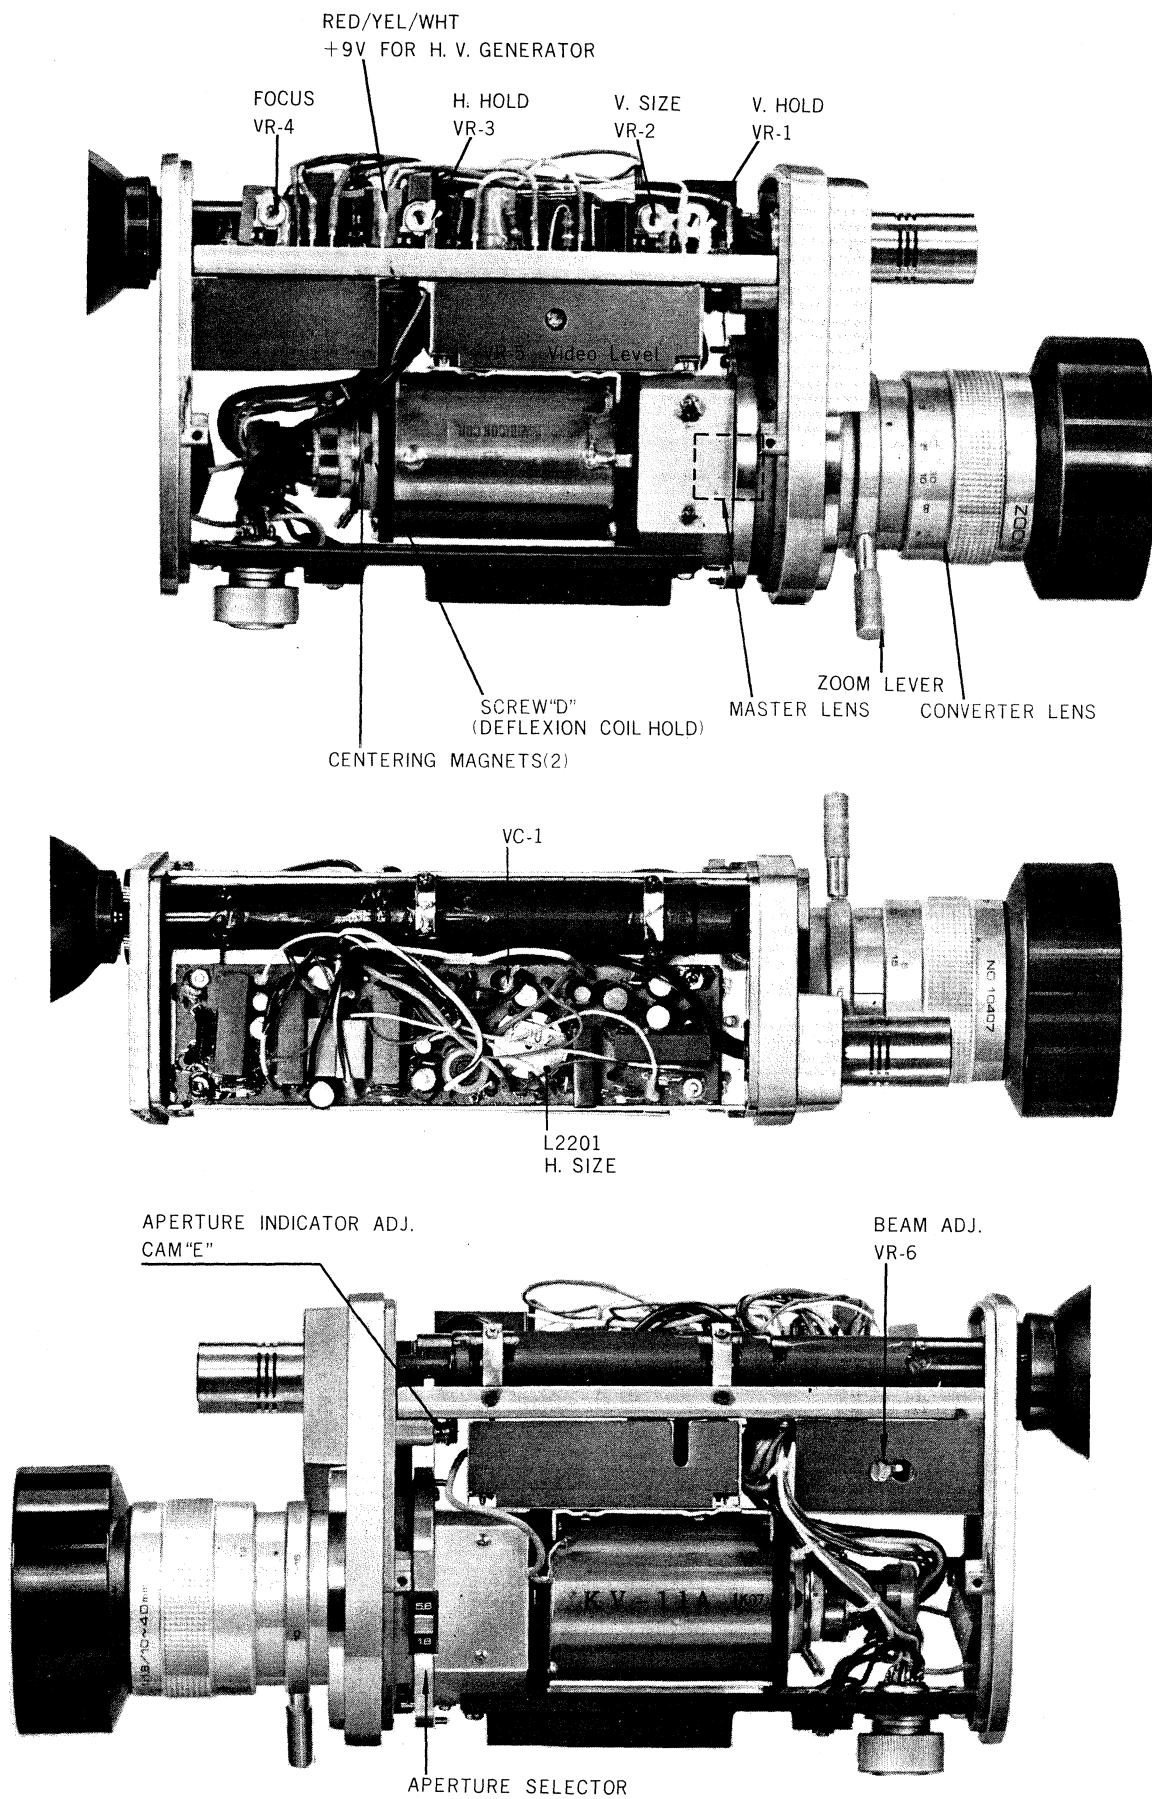
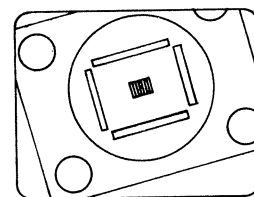

Fig. 2-2
Fig. 2-6
- Disconnect +9 V power supply lead wire (red/yellow/white) of High Voltage Generator Circuit. (Ref. to fig. 2-2).
If picture is tilted as shown in Fig. 2-6, loosen Screw "D" (fig. 2-2) and turn deflection coil until picture is straight.
Horizontal size can be adjusted by turning the upper part of L-2201 metal plate (shown in Fig. 2-2) with a pair of tweezers so that the horizontal size of monitor picture is minimum (maximum scanning condition).
Adjust VC-1 (shown in Fig. 2-2) so that a smeared or shiny white line does not appear following thick black line on resolution chart. (Ref. Fig. 2-9)
Aim camera at a florescent light. Zoom lever from TELE (40) to Wide (10) and adjust VR-6 (shown in Fig. 2-2) so that the white part of picture is clear (not out of focus).
If aperture indicator appears as shown in Fig. 2-13 (B) or (C), properly position by turning Cam "E" (Fig. 2-2).